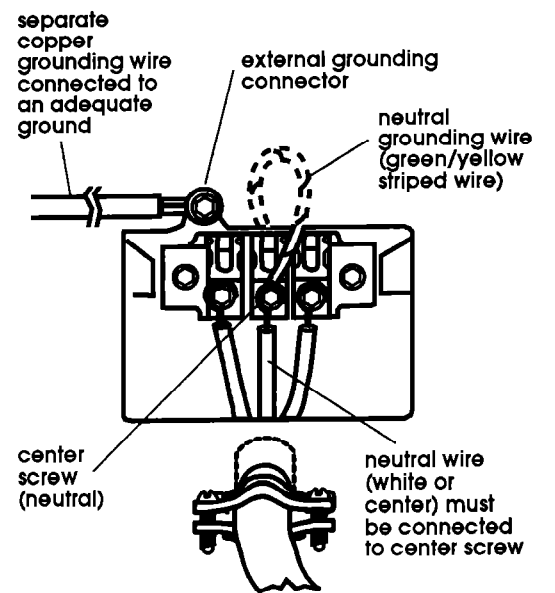

Figure 20
5. Connect the grounding wire (green with yellow stripes) and the neutral (white) wire of the power supply cord or direct wire cable to the center, silver-colored terminal screw of the terminal block. Connect the other wires to the outer terminals. Tighten screws (see Figure 20).